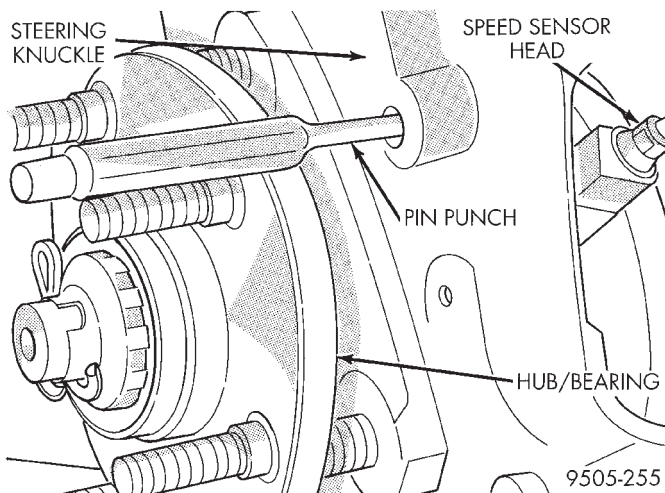

**Fig. 34 Speed Sensor Head Removal From Steering Knuckle**
(6) If speed sensor head can not be removed from steering knuckle by hand, the locating pin on the speed sensor head has seized to the steering knuckle do to corrosion. Remove speed sensor head from steering knuckle using the following procedure. Remove disc brake caliper from steering knuckle, and remove brake rotor from hub/bearing assembly. Then insert a pin punch through hole in front steering knuckle (Fig. 34) and tap speed sensor head locating pin out of steering knuckle.